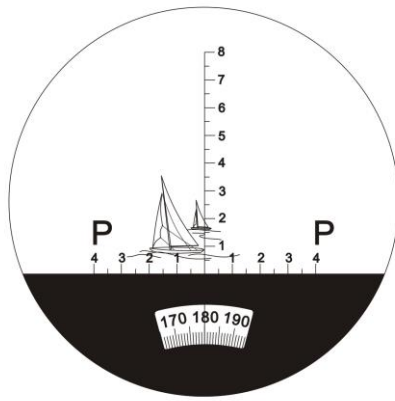

Fig. 4
4.2.2. A. When the Horizontal View Angle is smaller than the horizontal scale range (-40~+40 mils) inside the binoculars, aim one edge of the object at a horizontal scale line (the center or the outmost line are selected according to the image size of object usually) and read its value. Then read the value of the scale at which another edge was located. Plus this two value, the sum value is the measured Horizontal View Angle. As shown in fig 4, the Horizontal View Angle of the target (sailboat) is 2 decade miles (20 miles), and the Horizontal View Angle between the targets (p-p) is 8 decade miles (80mils).